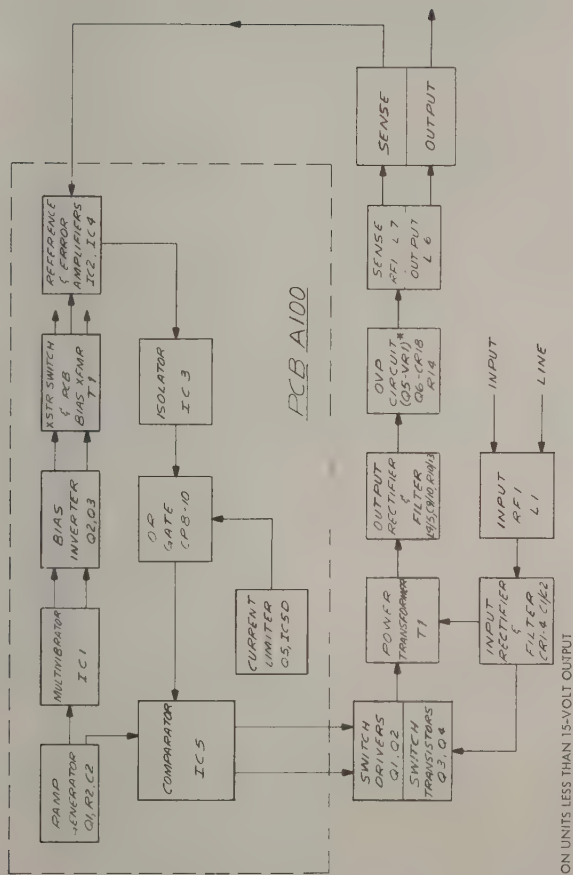

Figure 4-1 STM Simplified Block Diagram
4.1 BASIC STM PRINCIPLES (Refer to figure 4-1; block diagram)